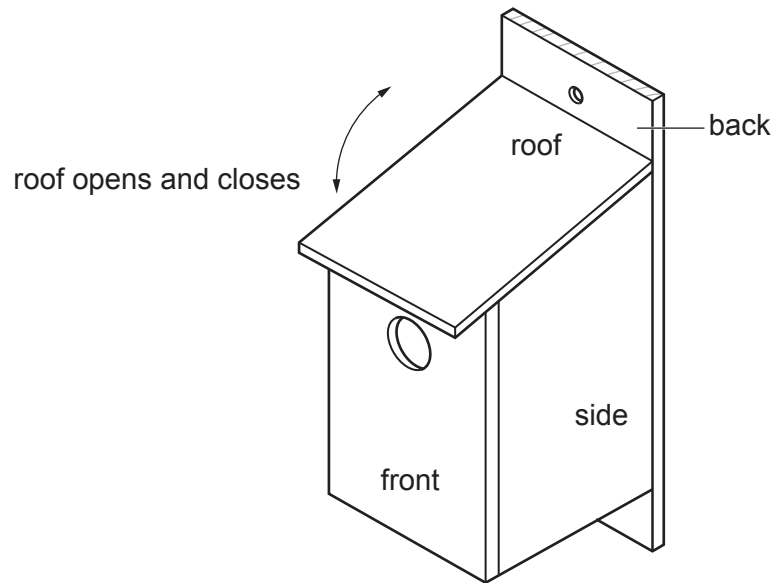

Fig. 13.1
- 13 Fig. 13.1 shows a nesting box made from 15 mm thick softwood. A batch of twenty nesting boxes is to be made in a school workshop.
- (f) Use sketches and notes to show how the roof of the nesting box could be made to open and close as shown in Fig. 13.1.